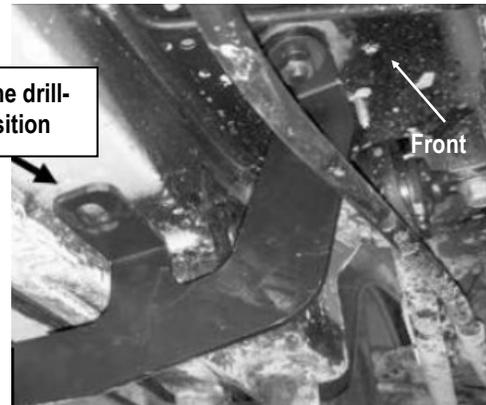

Fig 4
Move to the passenger side rear mounting location of the vehicle. Locate and remove the rubber plug on the mounting location. Insert (1) M10x35 Long Bolt Plate into the hole (Fig 3). And attached Passenger Rear Mounting Bracket (PRM) to the installed Bolt plate. Use the bracket as template, mark the slot position on the body panel (Fig 4).